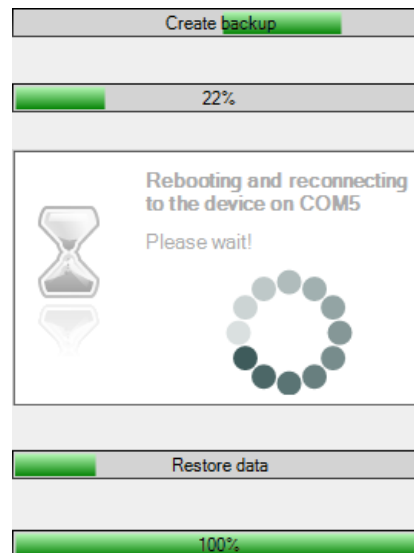

Figure 26: CODAN ARGUSservice device flashing process
9. The flashing process consists of the states shown in Figure 26.